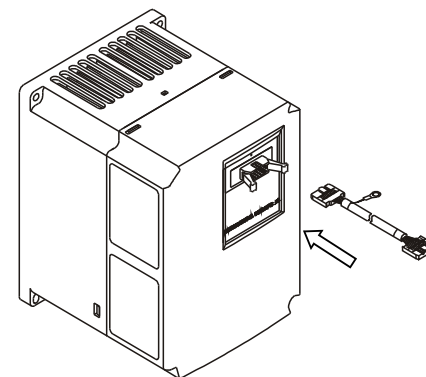

Fig. 3-10 Mounting Diagram of the operator panel and connecting wire of the inverter Model A
Step 4. Install the dismantled upper cover in the previous location, plug the ground end of connecting wire into the slot of jack panel (as shown in Figure 3-10).